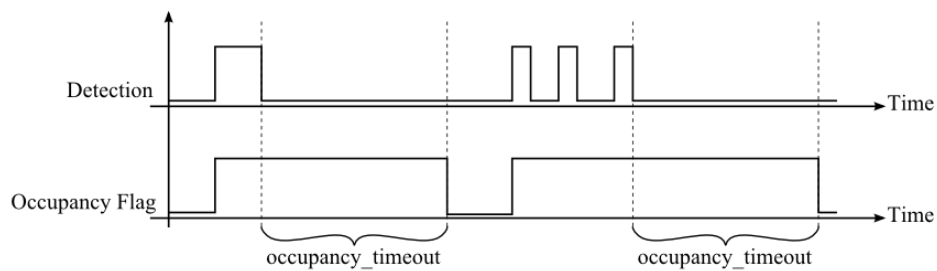

Figure 7: Occupancy Sensor Operation
<p>With this register the function of occupancy sensor is enabled and controlled.</p> <p>occupancy_timeout: defines a timeout in seconds when the state of the occupancy flag of the present state and short pressed register at address 0 and 1 will be cleared again after motion was detected. Please see Figure 7 for further information on operation.</p> <p>EN: occupancy sensor enabled, only if enabled the occupancy flag of the present state and short pressed register at address 0 and 1, Table 7 on Page 22 will be set.</p> <p>① Applies only to LSTAT-801-Gx-Lx and LSTAT-802-Gx-Lx.</p>
As depicted in Figure 7 the occupancy flag is set when motion is detected and will be cleared again after the occupancy\_timeout has exceeded as defined at the occupancy\_sensor\_configuration register.